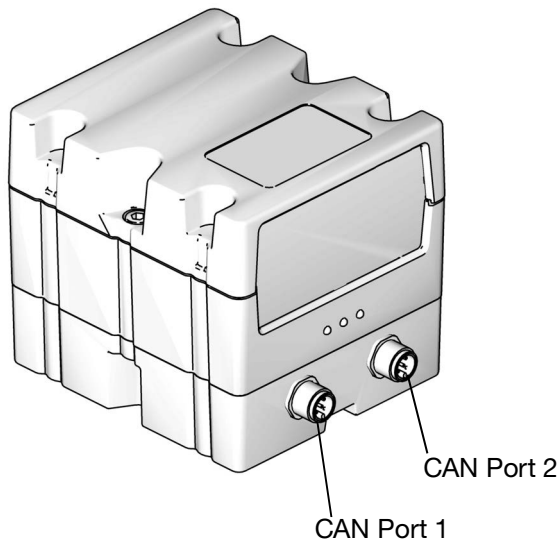

Fig. 22: CGM CAN Connections
10. Connect the other end of the CAN cable to either CAN port 1 or 2 on the CGM. See **FIG. 22**. It can be connected to either port.